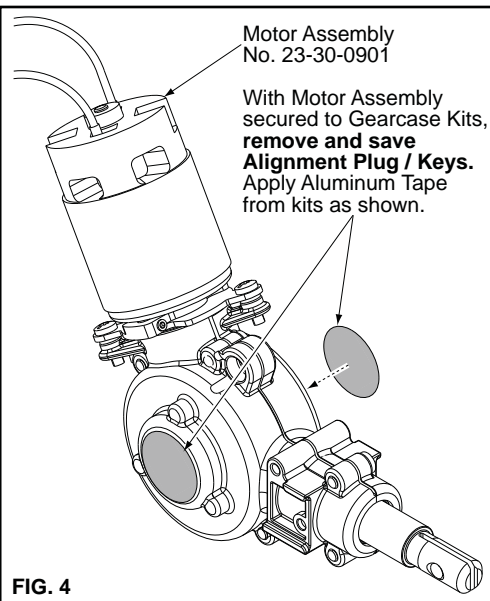

FIG. 4
11. Remove left and right alignment plug (s) and apply aluminum tape disc from kits to each side of gearcase (fig.4). **SAVE PLUGS incase motor needs servicing or replacing.**